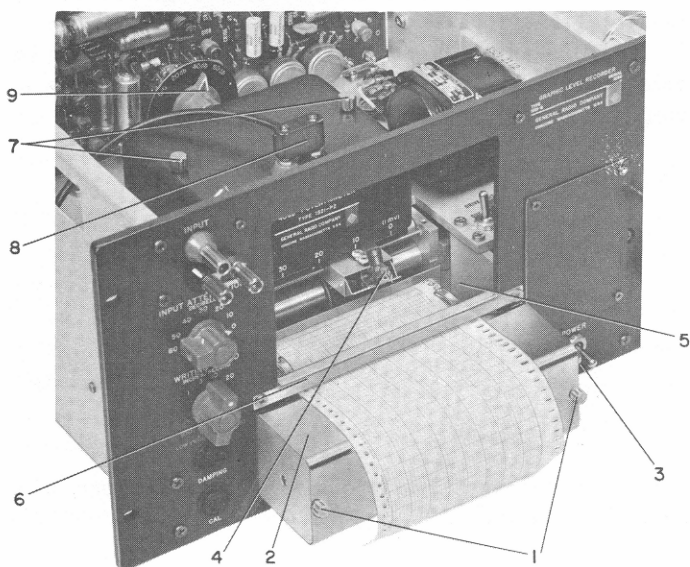
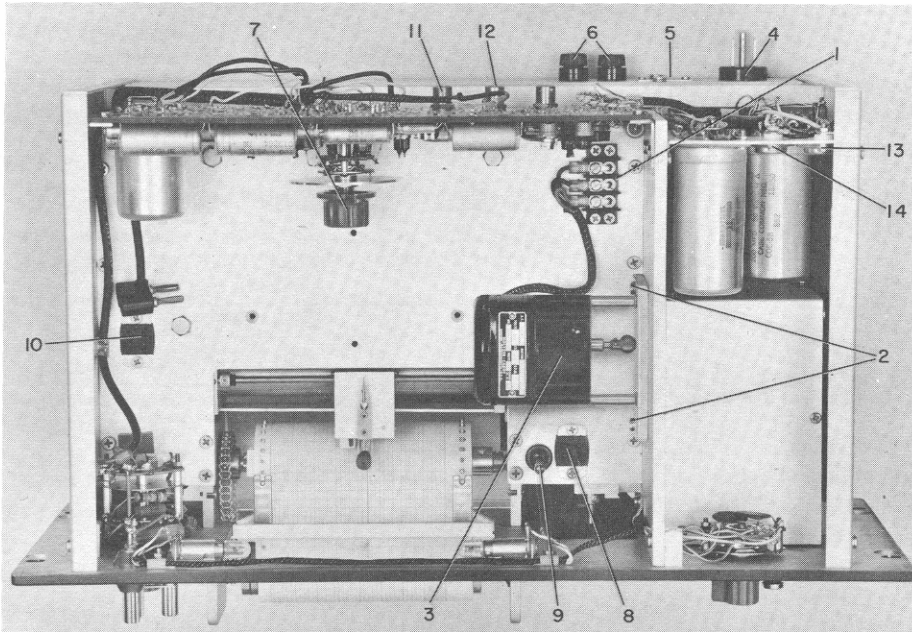

Figure 2.1. Front oblique view of recorder.
Figure 2.2. Top view of recorder
2.1.2 PAPER LOADING. (Refer to Figure 2.1). To load the recorder with paper, proceed as follows:
a. Remove the two thumb screws (1, Figure 2.1), and remove the paper cover (2).
b. Pull out the spring-loaded paper knob (3), and insert the roll of paper, with the loose end at the bottom, facing in toward the recorder. Press the right-hand paper hub to force the paper roll against the shoulder of the left-hand paper hub.
c. Grasp the pen (4) and swing it up, away from the drum.
f. Attach the paper cover (2) and fasten it with the two thumbscrews.
g. Move the paper along by turning the MANUAL SET knob, guiding the edge under the pen (4) and fingers
(5). The paper should go over the top of the paper cover and under the tear gate (6). It may be necessary to push down slightly on the paper cover.
All potentiometers can be installed without removal of the instrument from its case. When changing potentiometers, remove the unit to be replaced as follows: Remove the input plug (8, Figure 2.1) and loosen the captive thumbscrews (7) enough to free the potentiometer. Then remove the potentiometer by withdrawing it through the opening in the front panel. On linear potentiometers, a multipoint connector on the left-hand side must be unplugged before the potentiometer can be removed.
a. Set the potentiometer selector switch (9) to the position corresponding to the potentiometer being installed. The pins at the rear of the potentiometer case are guide pins that clear the selector switch only if it is set properly.
b. Move the input plug and cable out of the way, and insert the potentiometer through the panel opening. Two locating pins on the bottom of the potentiometer and mating holes in the shelf assure proper seating of the unit. When the potentiometer is in place (see Figure 2.1), tighten the thumbscrews (7) and connect the input plug (8). With a linear potentiometer, connect the multipoint plug in the mating socket (10, Figure 2.2).
c. Loosen the three screws holding the motor leads to the terminal strip (1, Figure 2.2), and slip the lugs out.
d. Remove the two motor-mounting screws and lock washers (2).
e. Remove the motor (3).
2.1.6 **POWER CORD.** Connect the power cord to the three-prong connector at the rear of the recorder (4, Figure 2.2). A small nameplate (5) to the right of this connector indicates the voltage and frequency for which the recorder is wired. A good ground connection should be made to the third conductor of the power cable to prevent 60-cycle pickup.
On the Type 1564 Sound and Vibration Analyzer, the 1900-A Wave Analyzer and on recent models of the Type 1304-B Beat-Frequency Audio Generator, the frequency dial can be rotated through 360°. With these instruments, it is desirable to remove the Drive-Unit Microswitches so that the frequency dial can sweep through the entire 360°. To cut out the Microswitches, snap the toggle switch (9, Figure 2.2) toward the rear of the instrument.